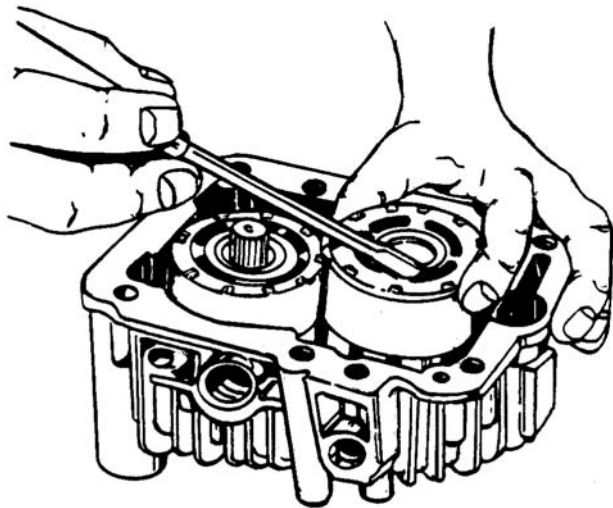

Figure 6-57. Positioning Piston Springs
- e. Check piston springs for correct placement. If they are out of place, correct placement with small screwdriver. See Figure 6-57.